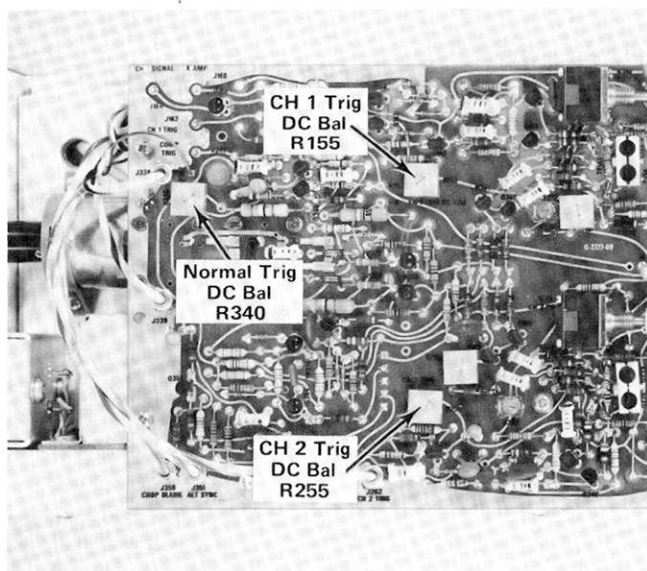

Fig. 5-27. Location of Trigger DC Level adjustments.
e. ADJUST—Normal Trigger DC Balance adjustment, R340, (see Fig. 5-27) to obtain a stable display on both the + and — slopes of the displayed waveform.
h. ADJUST—CH 1 Trigger DC Balance adjustment, R155, (see Fig. 5-27) to obtain a stable display on both the + and — slopes of the displayed waveform.
n. ADJUST—CH 2 Trigger DC Balance adjustment, R255, (see Fig. 5-27) to obtain a stable display on both the + and — slopes of the displayed waveform.